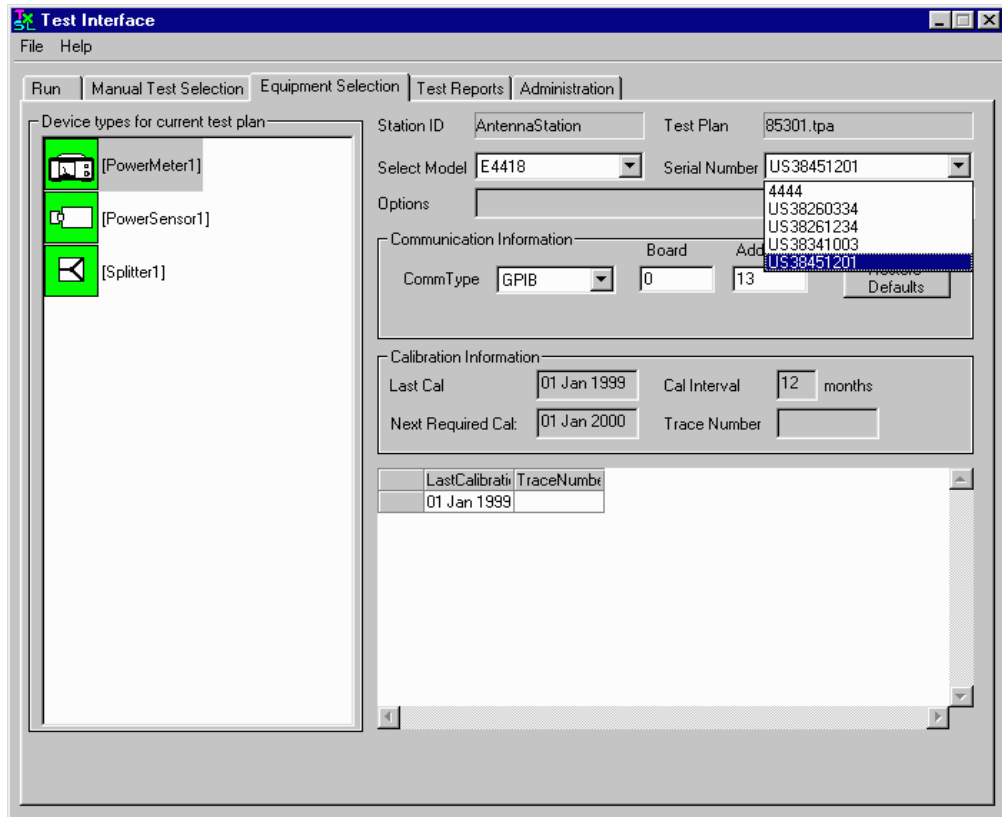

Figure 33 Equipment Selection Tab
2. Select the model number and serial number of the new device from the drop-down menus on the right side of the **Equipment Selection** window. See Figure 33.